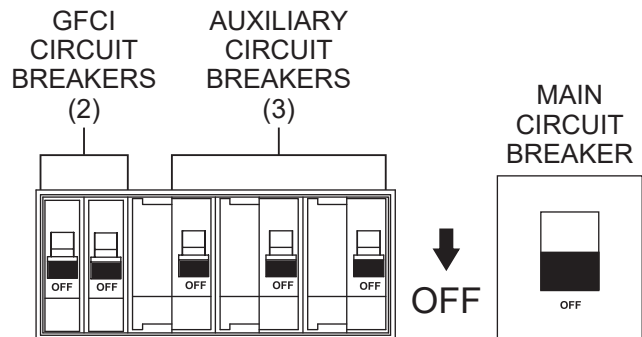

Figure 1. Main, Auxiliary, And GFCI Circuit Breakers (OFF)
1. Place the **main, auxiliary, and GFCI** circuit breakers (Figure 1) in the **OFF** position prior to starting the engine.